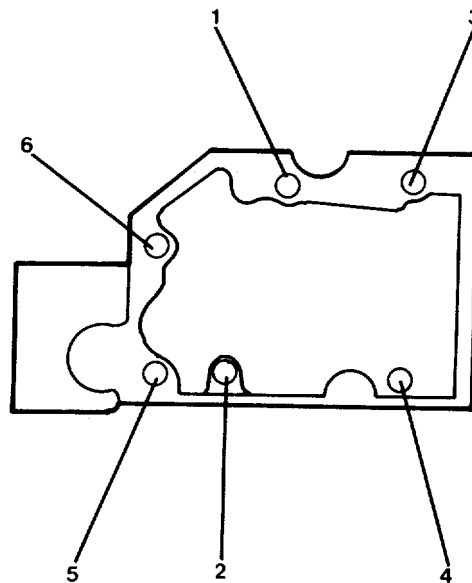

FIGURE 2-32. Rocker Lever Housing Tightening Sequence.
- (3) Install six flat washers (26) and hexagon head capscrews (24 and 27). Tighten to 65 ft-lb. (88 Nm) using the sequence shown in FIG. 2-32.